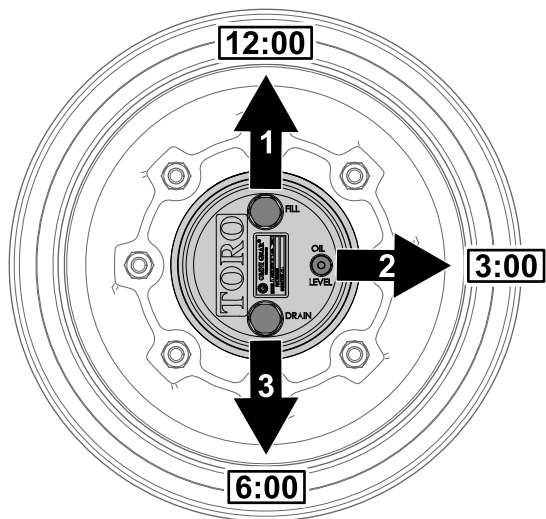

Figure 100
1. Park the machine on level surface, position the wheel so that the fill plug is at the 12 o'clock position, the check plug is at 3 o'clock position, and the drain plug is at the 6 o'clock position (Figure 100).
2. Remove the check plug at the 3 o'clock position (Figure 100).
1. Park the machine on level surface, position the wheel so that the fill plug is at the 12 o'clock position, the check plug is at 3 o'clock position, and the drain plug is at the 6 o'clock position; refer to Figure 100 in Checking the Planetary Gear-Drive Lubricant (page 61).